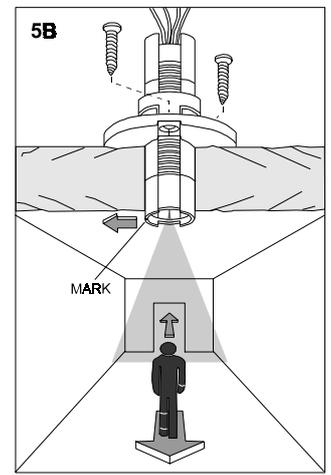

Figure 5B - Model SPY 4 Installation with Mounting Plate
**Installation with Mounting Plate:** Select a location that will place the curtain pattern in the direction of motion (Fig. 5B).
**Step 6** - Prepare the mounting plate screw holes so they are in line with the anticipated direction of motion (Fig. 5B).
**Step 7** - Install the detector unit, front end first, into the hole with the mark on the front **perpendicular to the path of travel** (Fig. 5B) and secure the mounting plate to the back of the ceiling with the screws provided.